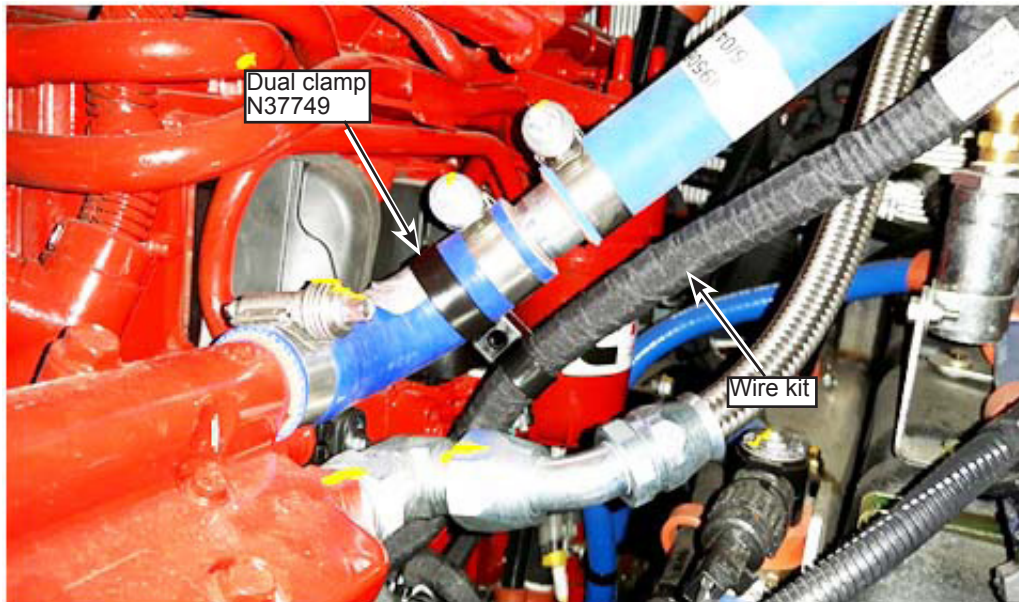

Figure 8 - Routing of Wire Kit
- 1.8. Continue routing up along the blue hose using a dual clamp zip tie (N37749) as shown below (see Figure 8).